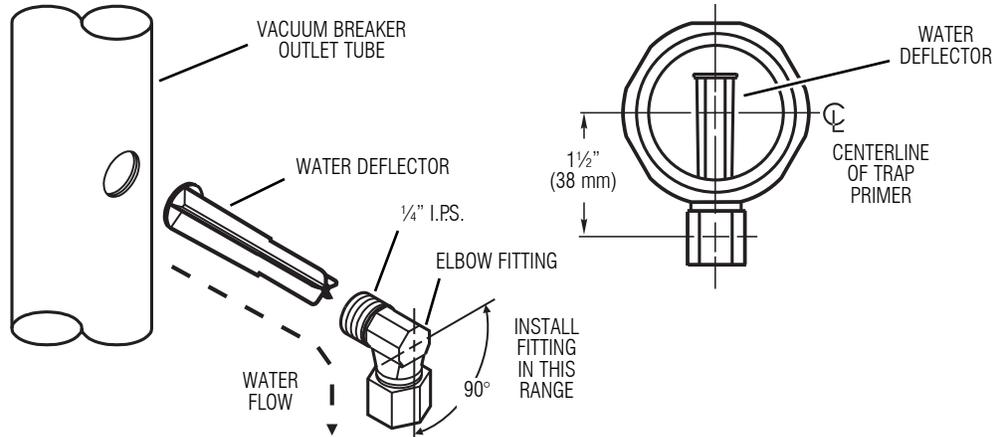

Figure 1
Step 1 — Install Water Deflector and Elbow (Figure 1)